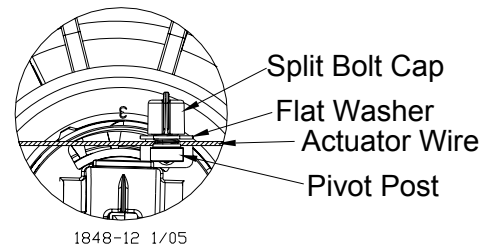

Figure 63. 13057 clamp installed
- Using the first pan away from the actuator, push the inner cone to the open position and clamp the wire with a flat washer and a split bolt cap to the pivot post, **see figure 63.**
4. Attach a spring in the center groove at the second anti-roost bracket and cut the cable at this point. See **Figure 63**.
5. Thread the ends of the cable through the end of the spring. Pull the cable tight so that there is 3/4" to 1" [20 to 25 mm] of stretch in the spring. Clamp the cable to form a loop and cut off any excess. See **Figure 63**.
6. Attach the cable to the insulator. For best results, make a double loop around the anti-roost insulator in the center groove of the insulator and fasten with a 1/16" cable clamp as shown in **Figure 63**.